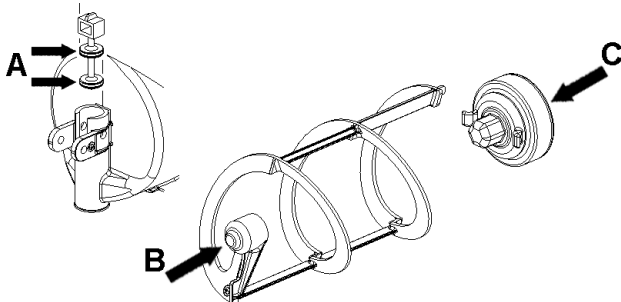

figure 12
- 2 Lubricate faucet piston, outer spiral and outside magnetic rotor (see points A, B and C of figure 12) only with the grease supplied by the manufacturer or other **food grade approved** lubricant.